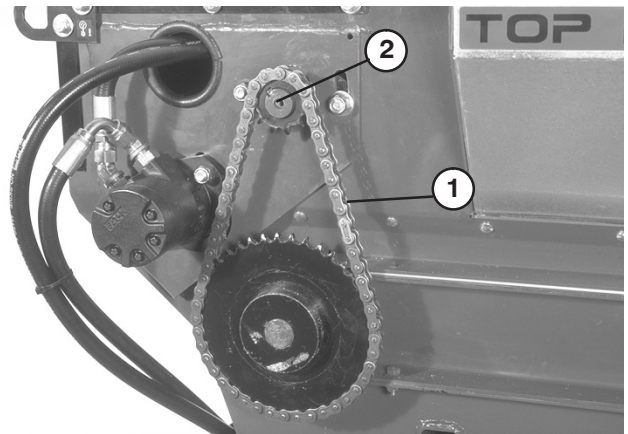

Figure 18
2. Loosen bolts and nuts securing motor and sprocket assembly to the main frame (Fig. 18).